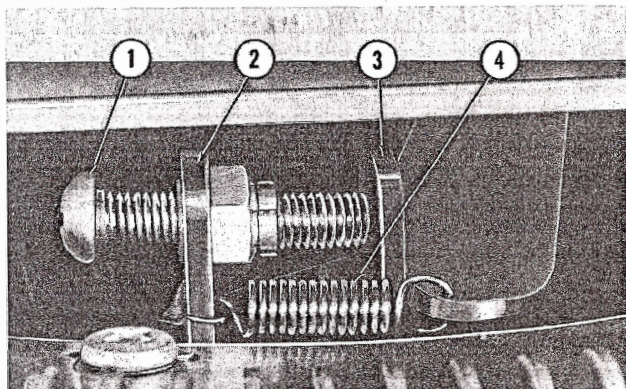
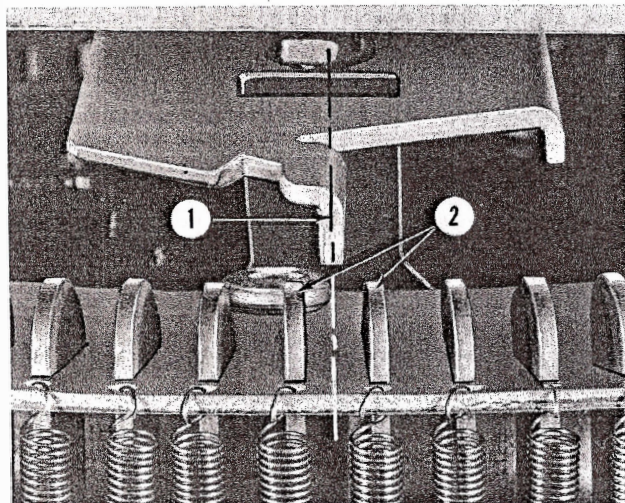

Fig. 61. KICK-OFF SCREW ADJUSTMENT
Fig. 62. SELECTOR CRANK ARM CENTERING
The adjusting screw (Fig. 61, Item 1) for centering of the selector crank arm is mounted on the end of the "adjusting bracket and stop nut assembly" opposite the plunger latch stop screw and actuating screw. This screw provides adjustment of the selector crank "at rest" position, to avoid interference with the release of adjacent selector pins (Fig. 62, Item 2).
(5) Adjust the selector crank kick off screw (Fig. 61, Item 1) so that the tip of the crank arm rests midway between selector pins.